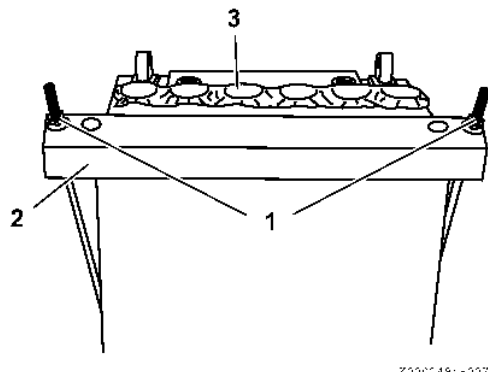

Figure 39
Do not remove the aluminum foil or sealing tape (**Figure 39, (3)**) from the battery until it is ready to be filled with electrolyte. Removing the foil or sealing tape will cause the battery to lose its dry charge.
1. Loosen nuts (**Figure 39, (1)**) that secure the battery hold-down (**Figure 39, (2)**).